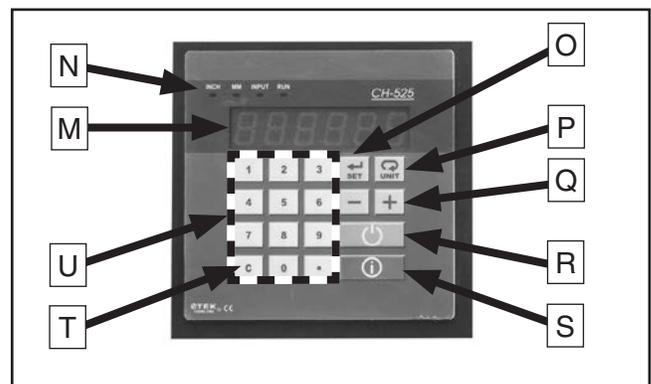

Figure 2. Digital control pad.
- O. **SET Key:** Press  key to enter Input mode. INPUT is highlighted in the unit/mode display (see **Figure 2**). Input mode must be active to enter a final workpiece thickness value.
- P. **UNIT Key:** Press  key to switch between inches or millimeters as unit of measurement for digital control pad. The selected unit (INCH or MM) is highlighted in unit/mode display (see **Figure 2**).